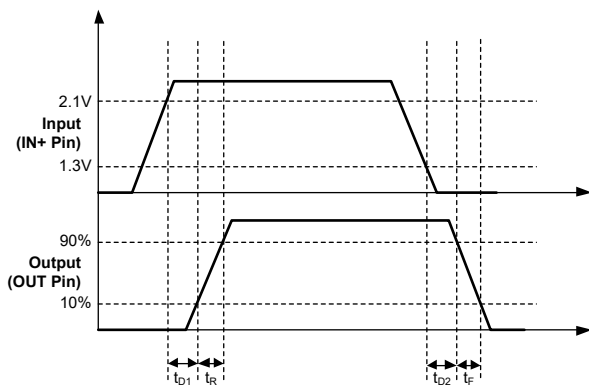

Figure 2. Non-Inverting Configuration
1. See timing diagrams as shown in Figure 2 and Figure 3.